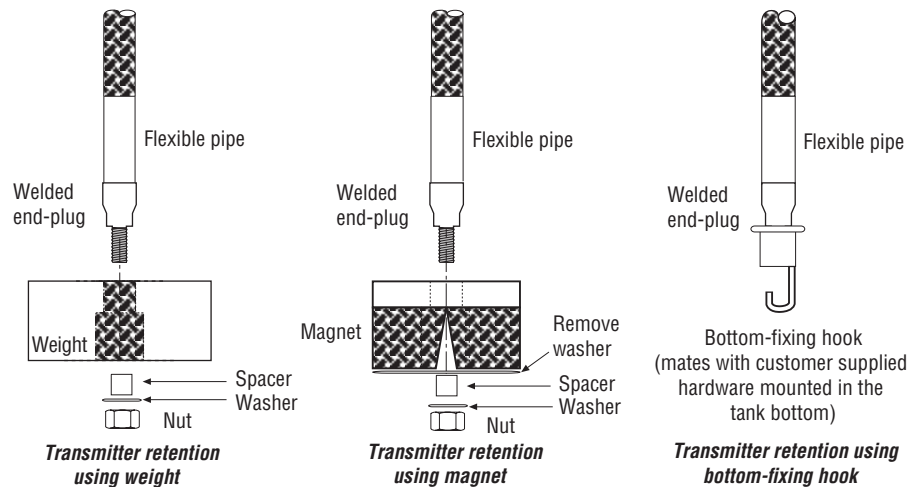

Figure 5. Bottom fixing hardware
3. Mount the hook, weight, or the magnet to the welded end-plug section of the pipe (this is the bottom rigid section of the pipe) using the supplied nut, spacer and washer, tighten securely as shown in *Figure 5*. **For the magnet, remove washer before installing in tank.**